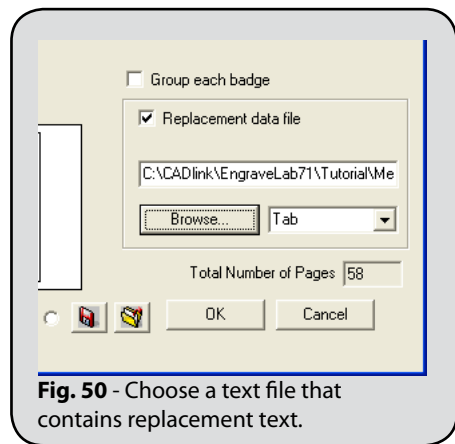

Fig. 50 - Choose a text file that contains replacement text.
4. This example uses the “MemberStates.txt” file that is in the EngraveLab Tutorial directory (Fig. 50).